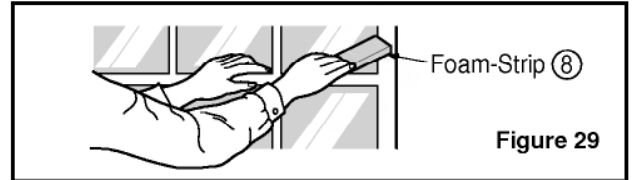

Figure 29
11. Cut the foam-strip  $\alpha$  to the proper length and insert between the upper and lower window sash. (See Fig. 29)